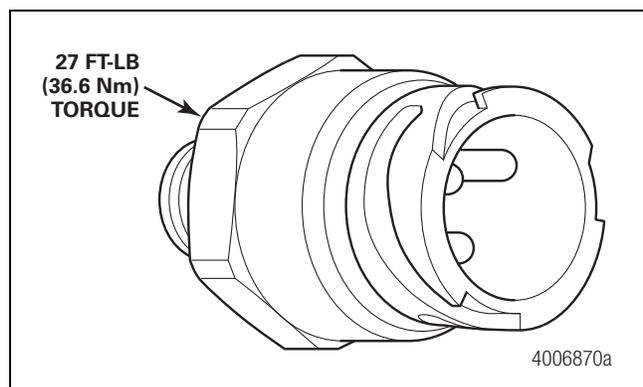

Figure 4.17
4. Disconnect the wiring harness connector from the brake pressure sensor. Figure 4.17.